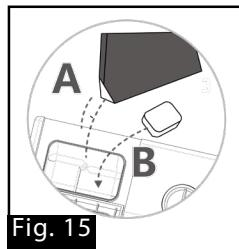

Fig. 15
3. Add the required amount of detergent (Fig. 15).